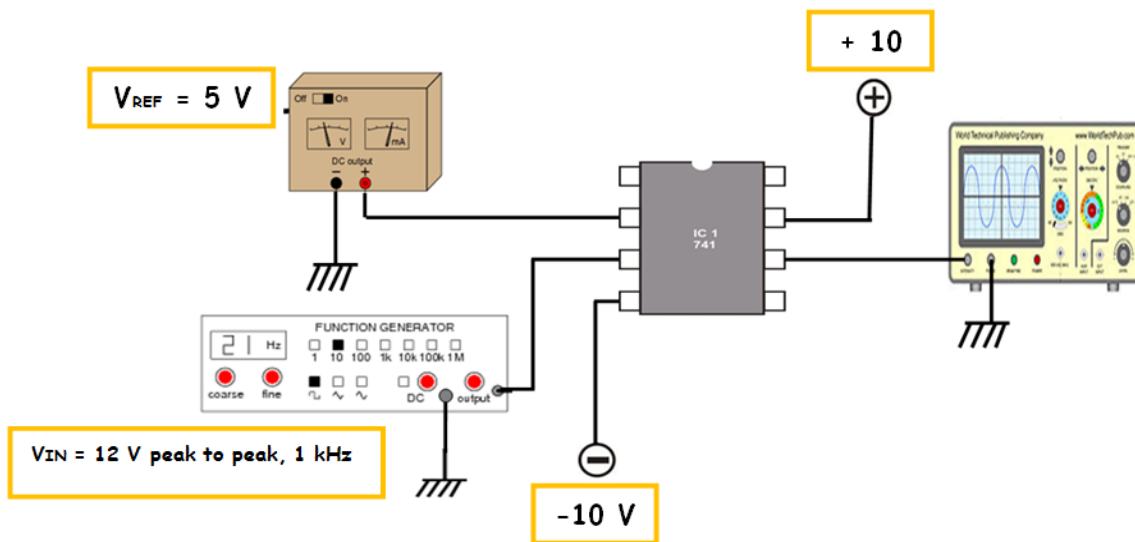

Figure1. The connection of the simple comparator circuit.
1. First, a simple comparator was designed and constructed as shown in figure1.